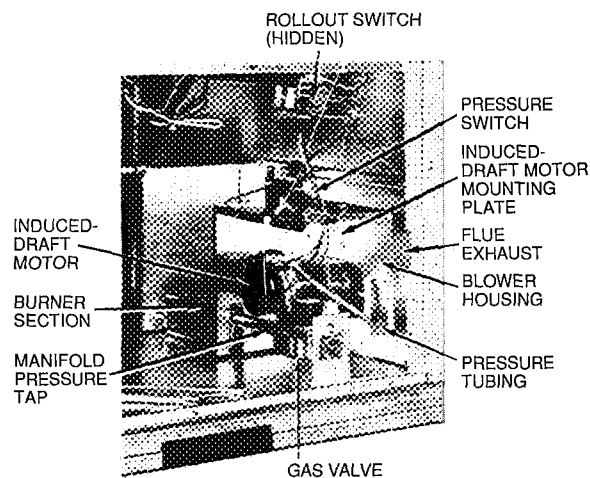

Fig. 33 – Burner Section Details
4. Remove the 7 screws that attach induced-draft motor mounting plate to blower housing (Fig. 33).
REMOVAL OF GAS TRAIN (See Fig. 33 and 34)
REPLACEMENT OF GAS TRAIN (Fig. 33 and 34)